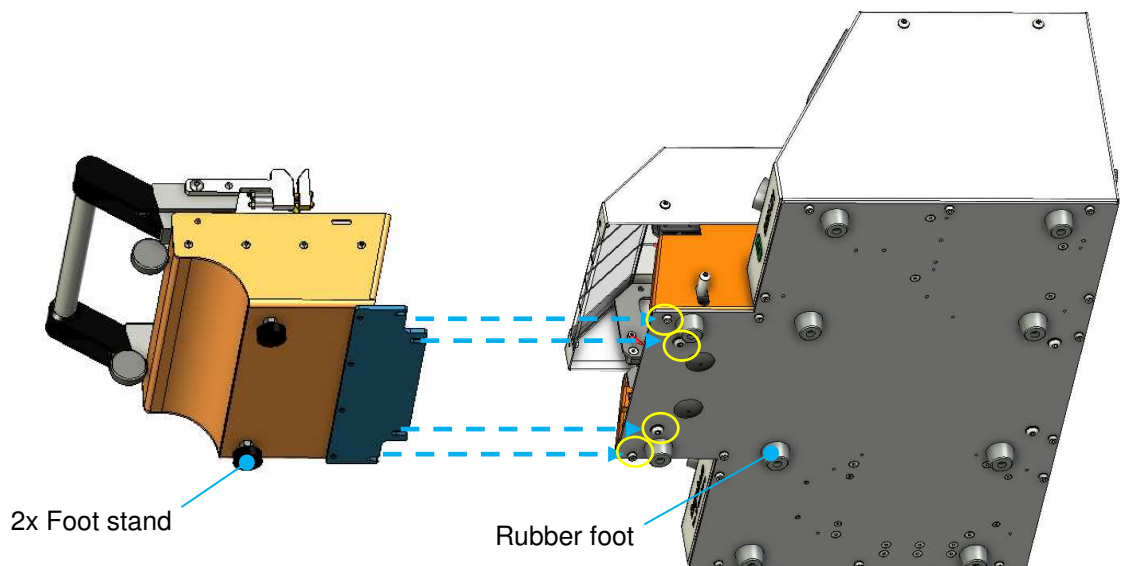

Fig.6 Assemble Fixture onto machine
4. Fig.6 , assemble the RBK fixture onto the RBK Processor with fixture lean to machine closely, and fix the 4 screws.
5. Fig.6 , adjust the height of fixture foot stand, equal to height of machine rubber foot.